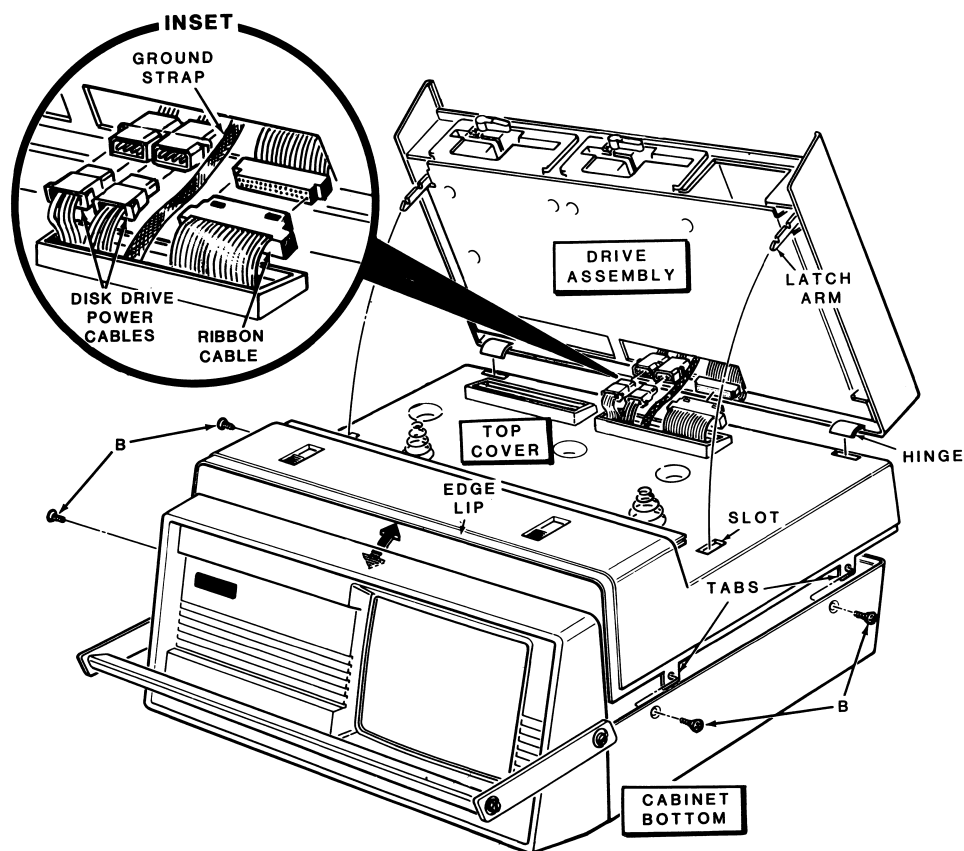

Figure 2. Cover Removal (Z-160 Series)
See Figure 2.
- ☐ Disconnect the ground strap and the disk drive power cable(s). See inset on Figure 2.